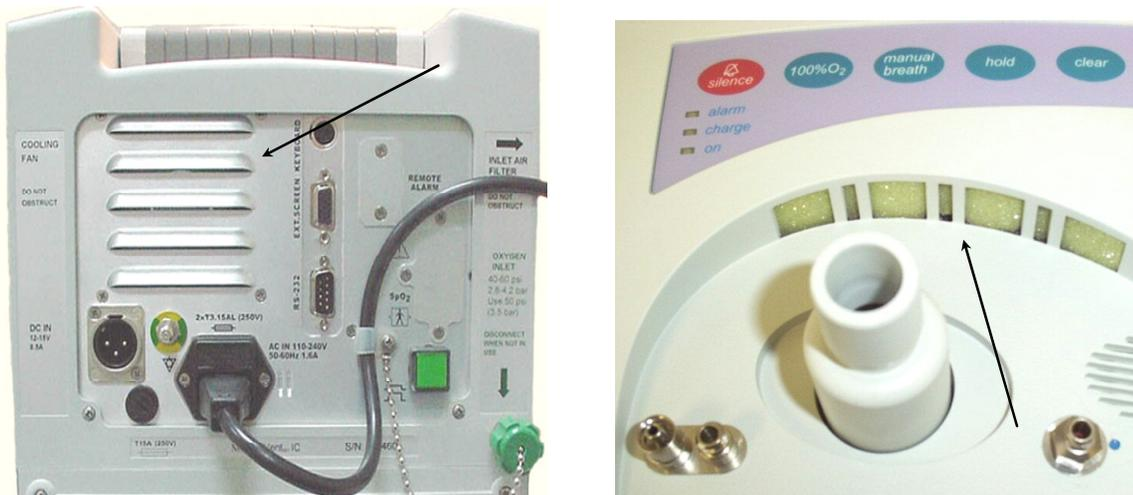

Figure 5-1: Cooling Vent (left) and Cooling Air Inlet Filter (right)
1. Clean the rear cooling vents and the front cooling air inlet using a vacuum device. Tilt the ventilator back to access the front cooling air inlet filter (see Figure 5-1, page 76).
2. Remove the used cooling air inlet filter and install the replacement filter (see Figure 5-1, page 76, and Figure 7-7, page 116). Be sure to examine the installation from the front and verify that there is adequate coverage of the air intake opening.
5. Remove the (3) 3mm x 8mm Phillips head screws and washers from the outlet port mounting ears.